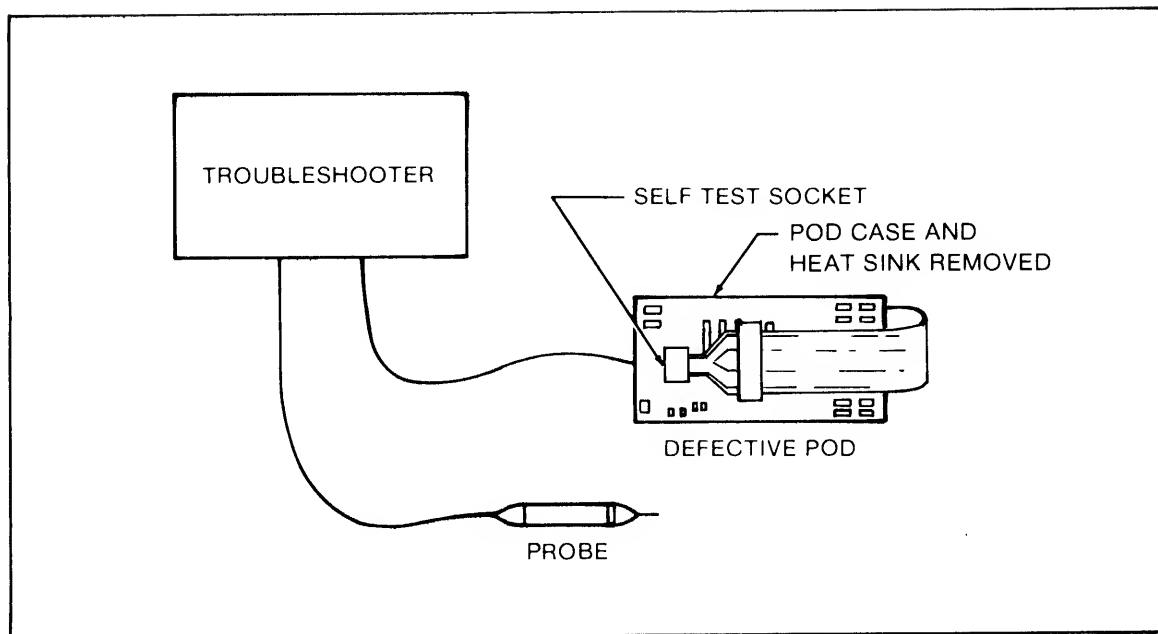

Figure 6-1. Troubleshooting a Defective Pod
3. Connect the Pod to the Troubleshooter, and insert the ribbon cable plug into the self test socket as shown in Figure 6-1.